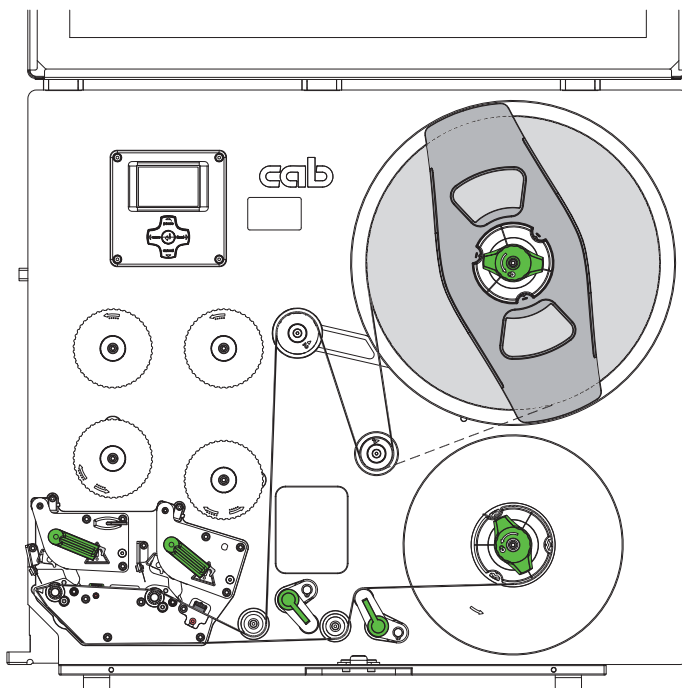

Figure 9 Label feed path
1. Turn the lever (13) clockwise to lift the pinch roller (12) from the backfeed roller (11).
2. Move the guide (8) to the outermost position by turning the spindle (9) with the Allen key (3).
4. Guide label strip (6) to the print unit as shown in Figure 9. The broken line shows the path for inside wound labels.
5. Guide label strip through the label sensor (10) to the peel-off edge (7) and push it against the chassis.
6. Move the guide (8) against the label strip by turning the spindle (9).
7. Forward the label strip over the peel-off edge (7), that the strip reaches back internal rewinder. Remove the labels from the overhanging strip.